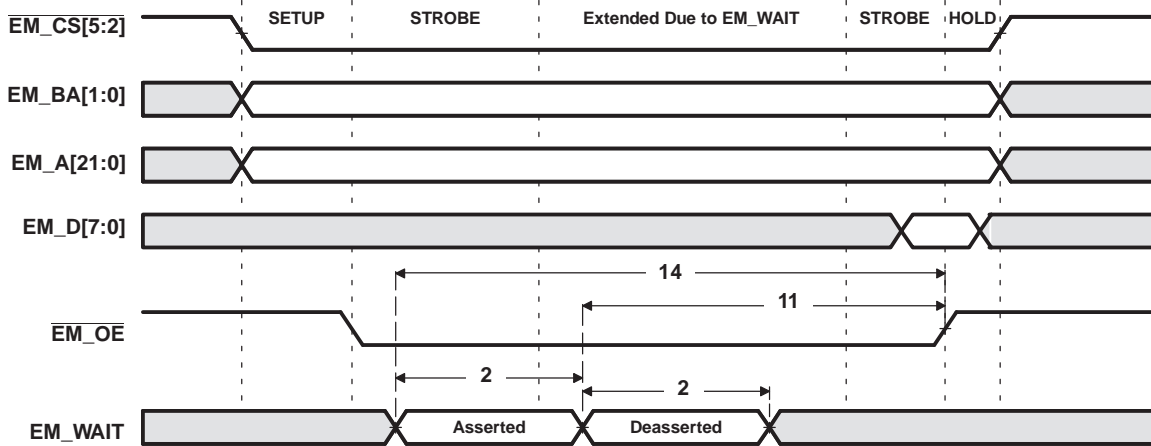
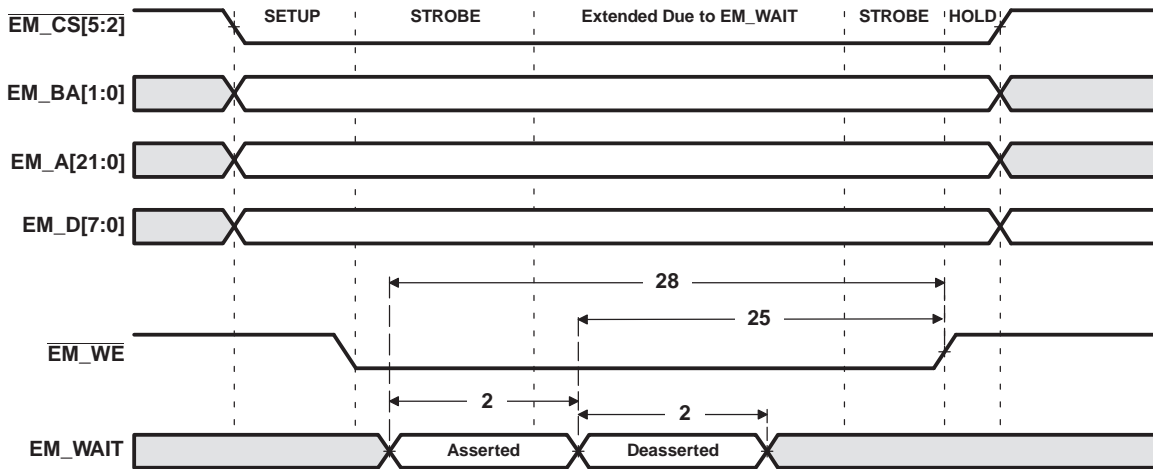

Figure 6-16. EM_WAIT Read Timing Requirements
Figure 6-17. EM_WAIT Write Timing Requirements
- (1) E = SYSCLK3 period in ns for EMIFA. For example, when running the DSP CPU at 300 MHz, use E = 20 ns.
- (2) Setup before end of STROBE phase (if no extended wait states are inserted) by which EM_WAIT must be asserted to add extended wait states. Figure 6-16 and Figure 6-17 describe EMIF transactions that include extended wait states inserted during the STROBE phase. However, cycles inserted as part of this extended wait period should not be counted; the 4E requirement is to the start of where the HOLD phase would begin if there were no extended wait cycles.